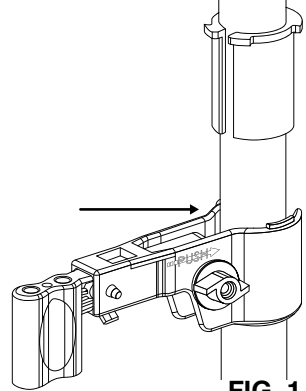
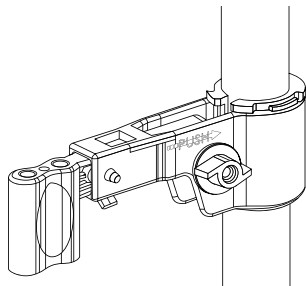

FIG. 1.4
FIG. 1.5
j. Push clamp opening straight onto frame, below the rubber sleeve. (Fig. 1.4) Then slide clamp up and over the rubber sleeve. (Fig. 1.5) This allows you to install the clamp without pulling the clamp mouth open.